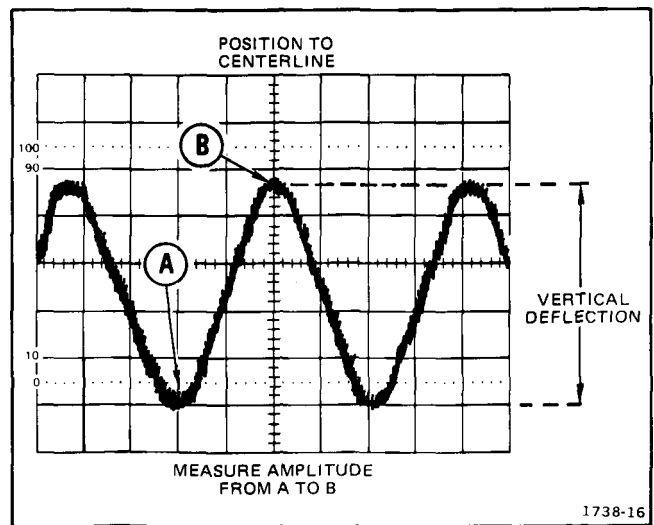

Figure 4-2. Peak-to-peak waveform voltage.
6. Vertically position the display so that the negative peak of the waveform coincides with one of the horizontal graticule lines (see Figure 4-2, Point A).
7. Horizontally position the display so that one of the positive peaks coincides with the center vertical graticule line (see Figure 4-2, Point B).
8. Measure the vertical deflection from peak to peak (see Figure 4-2, Point A to Point B).
**EXAMPLE:** The measured peak-to-peak vertical deflection is 4.6 divisions (see Figure 4-2) with a VOLTS/DIV switch setting of 0.5, using a 10X probe.